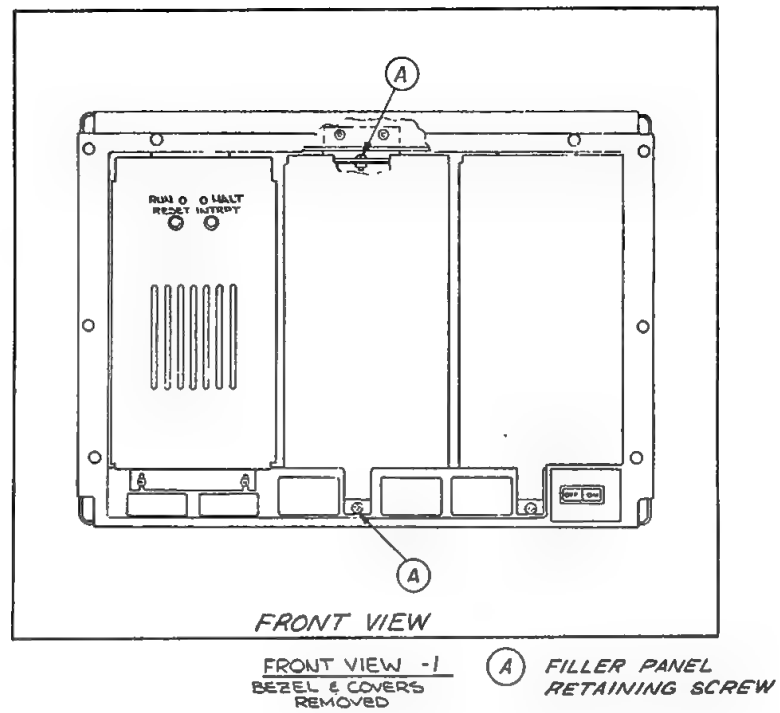

Figure 2-10. Front Filler Panel Installation
- e. Remove the front filler panel covering the opening to be used for the installation of the peripheral. Each panel is attached with two screws, one at the bottom and one at the top of the panel, see Figure 2-10.